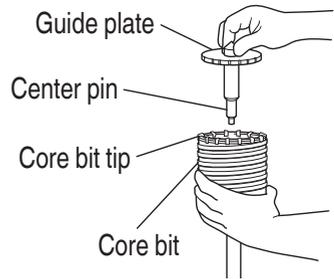

Fig. 16
- (3) Insert the center pin into the guide plate until it stops.
- (4) Engage the guide plate with the core bit, and turn the guide plate to the left or the right so that it does not fall even if it faces downward (Fig. 16).